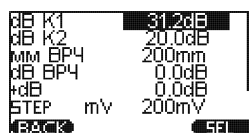

Figure 2.12 - Calibration editing mode
2. Using key «» open the action menu with the calibrations, highlight the item "EDIT" and confirm with the key «». The instrument will go into the calibration editing mode (Figure 2.12).